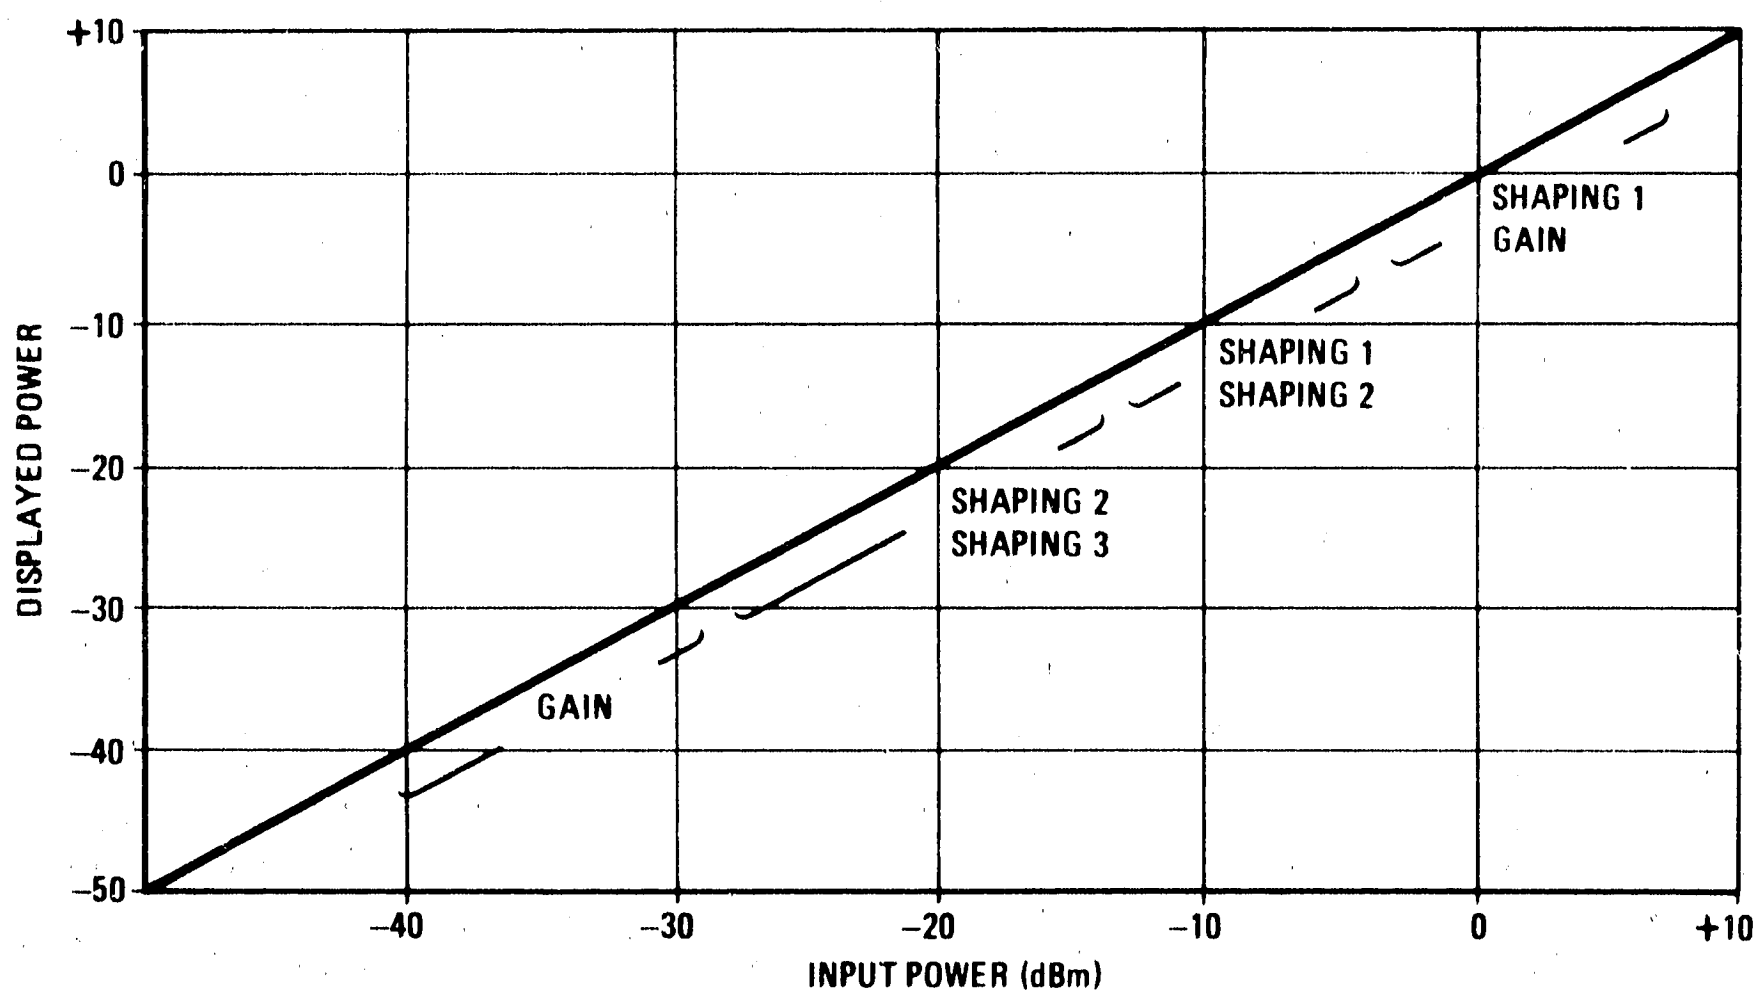

Figure 5-3. Graph for Log Amplifier Adjustment
- k. Adjust the appropriate log amplifier internal GAIN and SHAPING controls to obtain the desired amplitude response. A response curve is shown in Figure 5-3 and Table 5-2 shows the adjustments. These are included as an aid in making these adjustments. Course adjustments should be made first and then finer adjustments made until the amplitude response is within ± 0.5 dB (\pm the tolerance of the calibrated attenuators) over the detector input range of +10 dBm to -50 dBm.